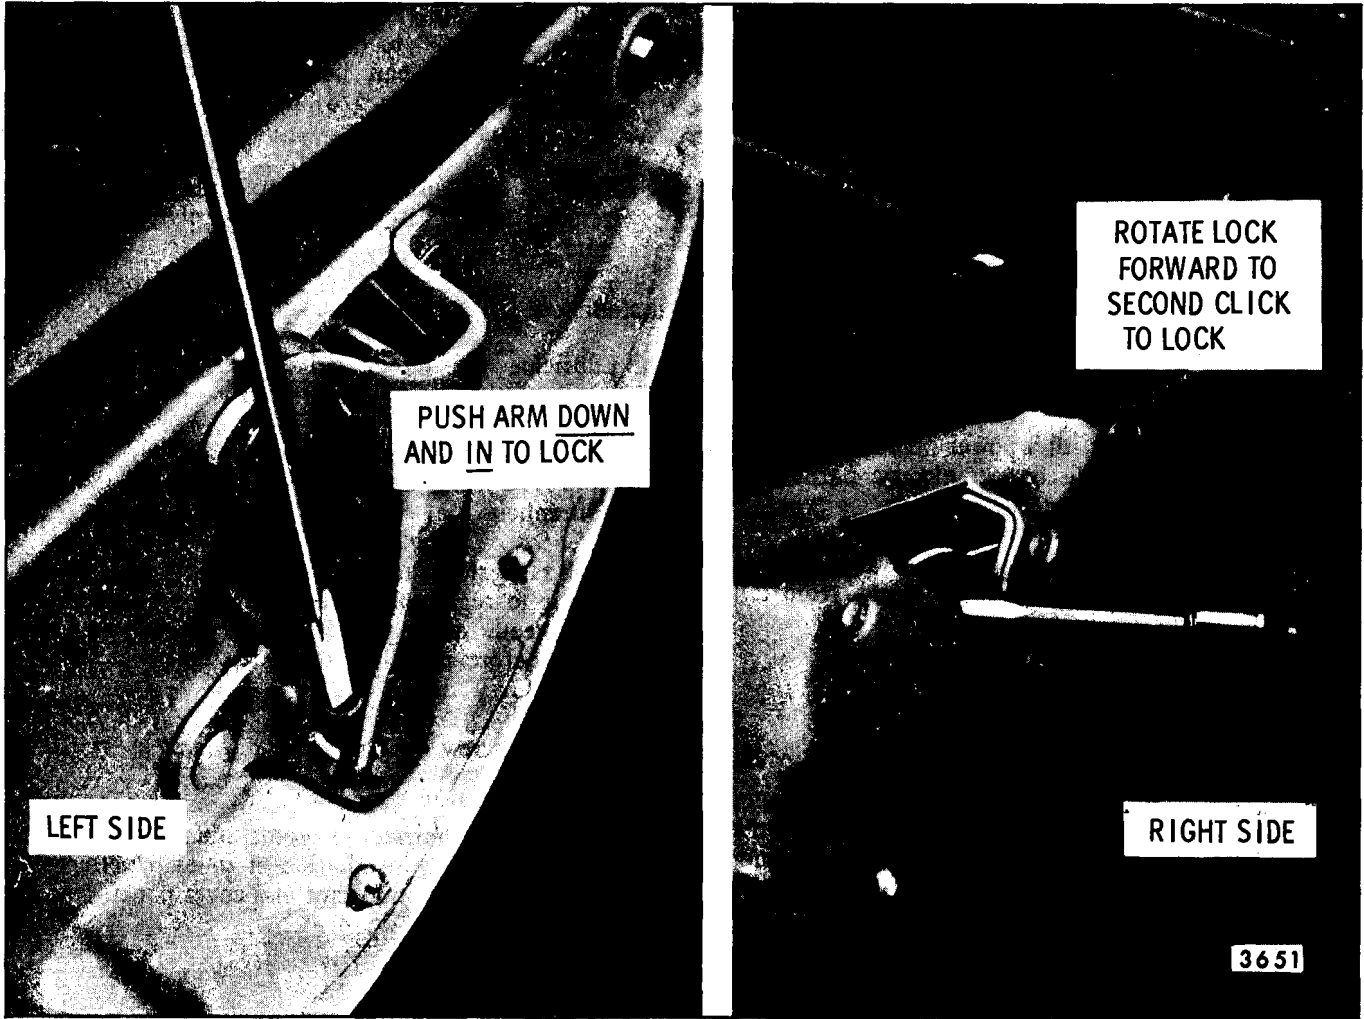

Fig. 9-36-Dual Acting Tail Gate Right and Left Upper Lock Manual Locking
2. With glass supported in a full-up position, manually lock right upper lock as shown in Figure 9-36.
- A. The RIGHT upper lock is engaged by pivoting fork bolt to its full clockwise limits (Fig. 9-36).
- B. The LEFT upper lock is engaged by depressing (with a screwdriver, or other suitable tool) the locking lever to full-engagement (Fig. 9-36).
1. With tail gate open in a gate position, manually lock upper right and left locks as shown in Figure 9-36.